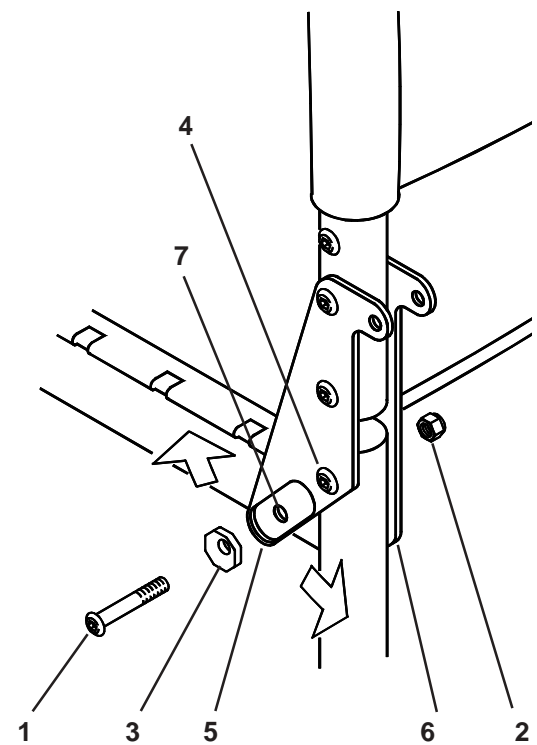

Fig. 36
To adjust the angle of Optima backrests (Fig. 36) remove screw (1) and nut (2) and adjusting washer (3). Use a 4mm Allen key and a 10mm A/F spanner. Loosen screw (4) sufficiently to allow brackets (5-6) to rotate. Turn the adjusting washer round to the desired angle and replace it into the recess (7) with all the holes in line. Replace the screw (1) and nut (2) and tighten to 8-10Nm torque. Tighten screw (4) to 8-10Nm torque.